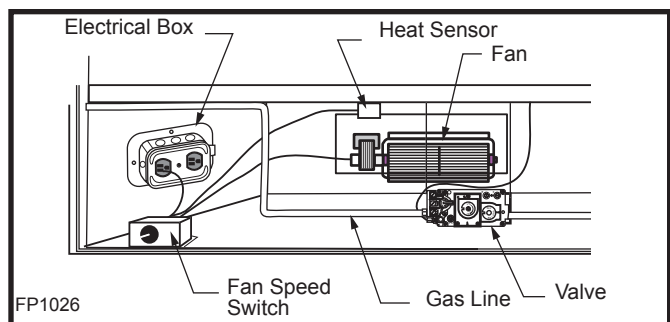

Fig. 76 FK24 fan placement.
1. Slide fan assembly from the left side into the fireplace opening, line up mounting holes with screw studs on back of fireplace and fasten with #10 - 24 hex nuts. (Fig. 76)